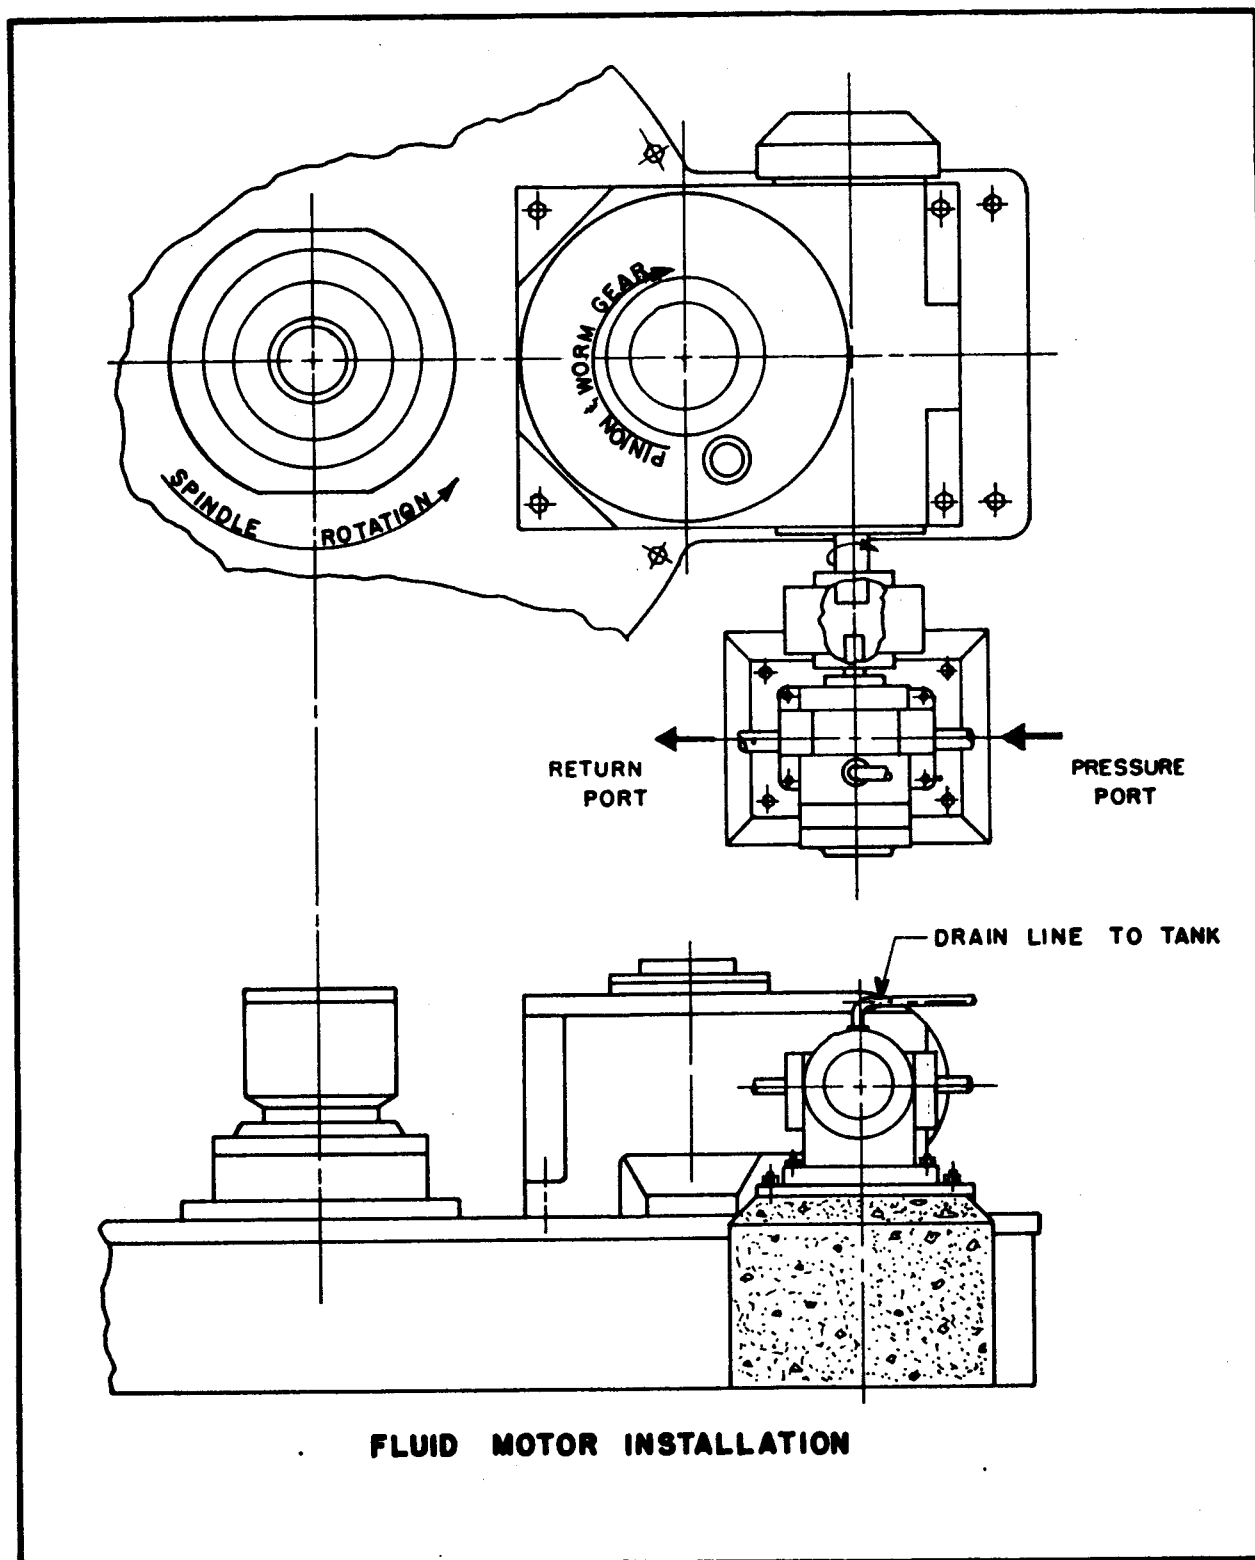

Figure 4A
1. Fluid Motor. The fluid motor should be installed as shown on the drive arrangement drawing furnished by the JONES Division for the customer's particular press installation. Figure 4A shows a typical installation; the coupling is carefully aligned and the fluid motor is securely fastened to the base plate. The drawing shows the usual mounting position for the fluid motor shown as well as the correct rotation for spindle and fluid motor. Also shown is the correct high pressure port and the correct low pressure return port.